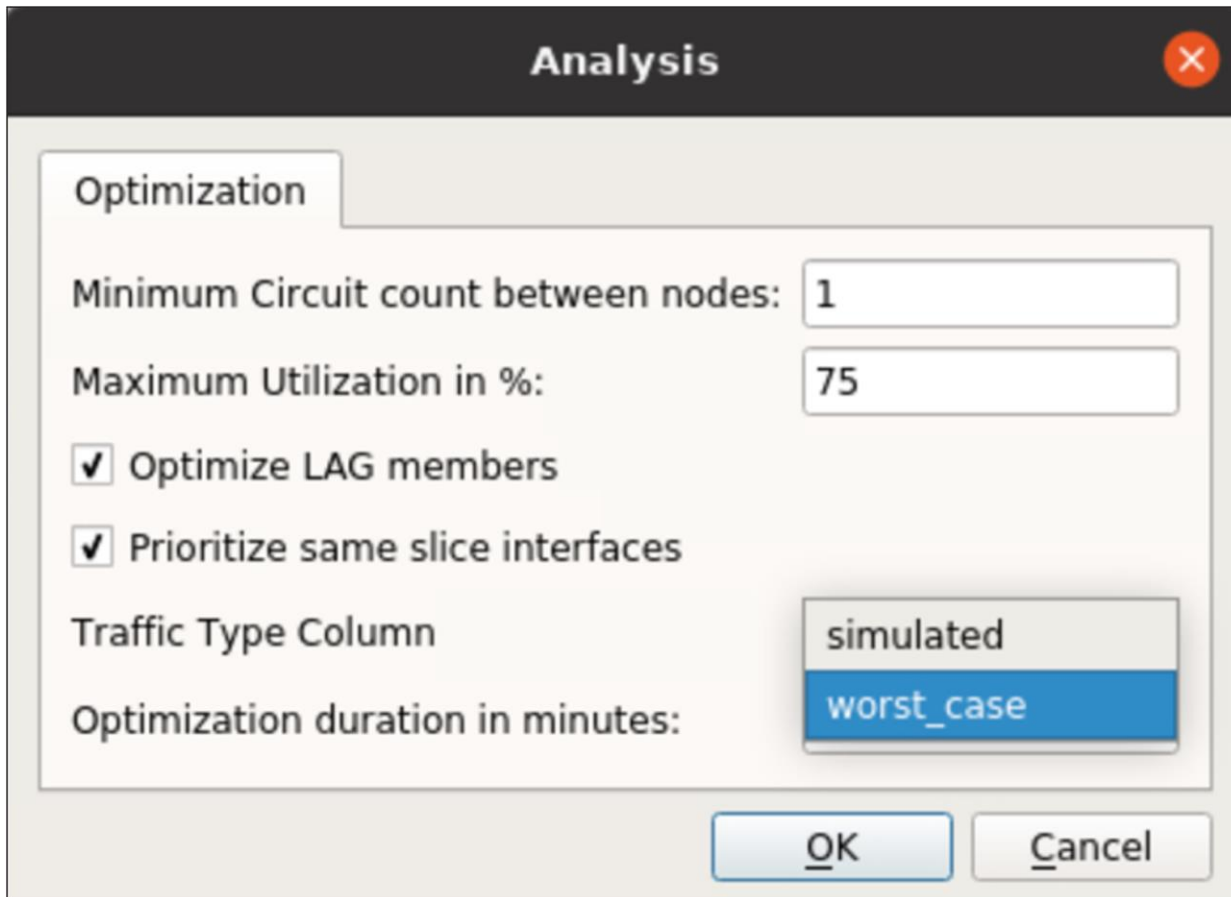

Figure 2.
- Enter optimization parameters to make sure energy savings don't come at a cost to resilience, as shown in Figure 2. This concept is valid for bundles or parallel circuits. For example, if nodes A and B are connected by multiple links, maintaining at least one active link allows the nodes to continue exchanging routes so that network traffic will continue along the same path as before.